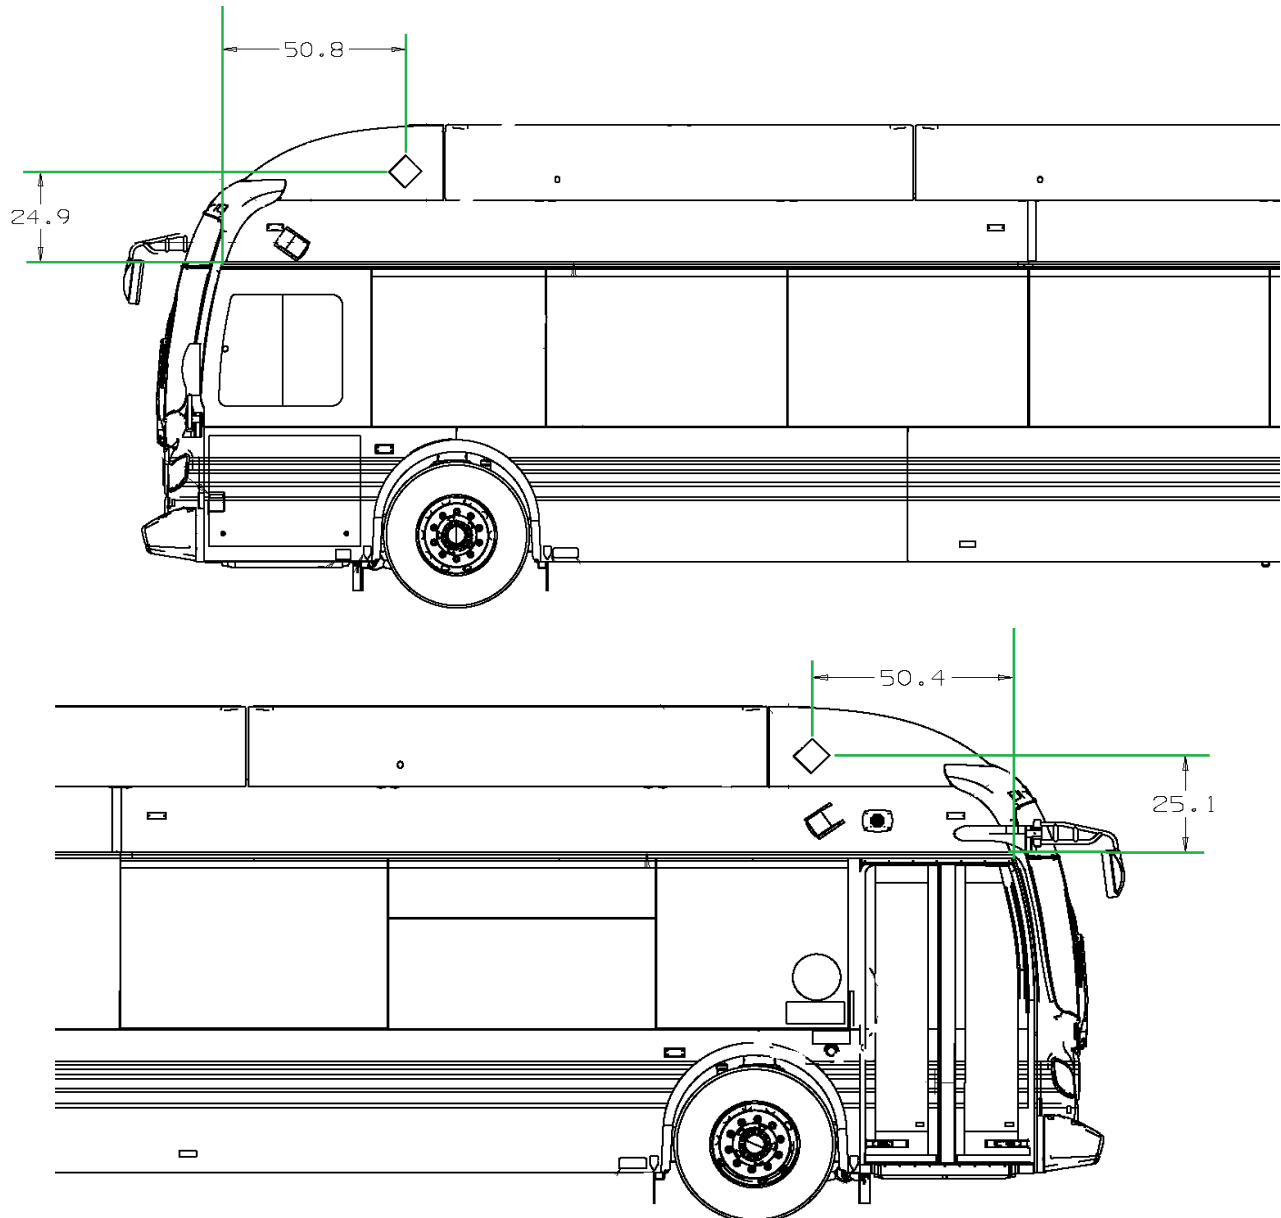

Figure 1: New CNG decal locations
2. Clean the locations on the CS and SS side screen panel where the new decals (NF PN 065959) will be installed. Use a lint free cloth moistened with isopropyl alcohol (NF PN 134336) and wipe the area clean. Allow 5 mins to flash off. See Figure 1 for locations.
3. Install the new decals in the locations shown in Figure 1.